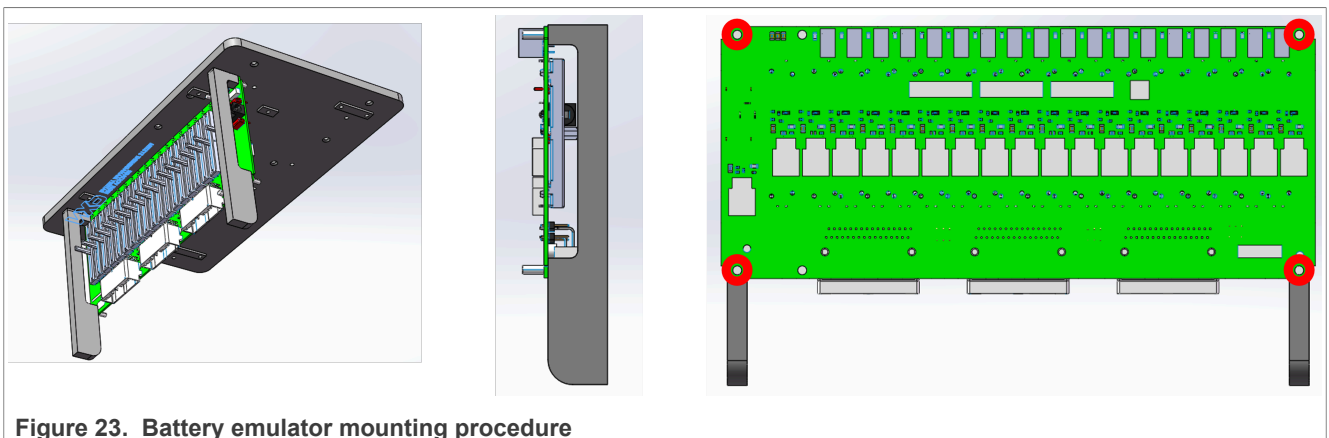

Figure 23. Battery emulator mounting procedure
1. Mount the battery emulator to the support frame (800-76232) using four screws (280-76355) according to Figure 23.